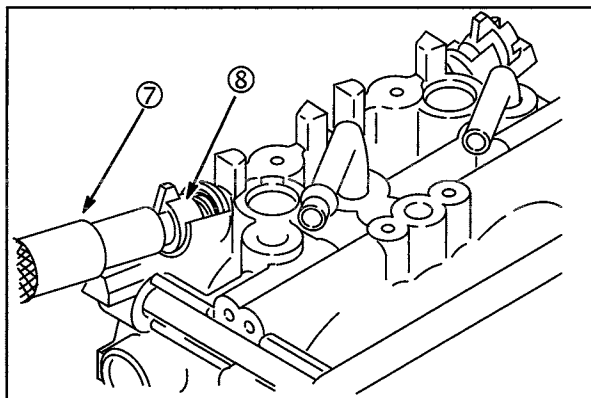

Fig. 22
- a. Position limiter cap (8) so that stop on limiter cap is at mid point between stops on carburetor body. Press limiter into position using Knock Out Pin #19135 (7) as shown in, Fig. 22.